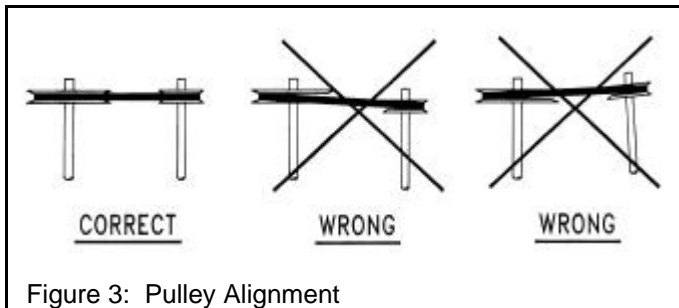

Figure 3: Pulley Alignment
- 6 With the motor adjusting bolt in its minimum position install the V belt within the sheave grooves. Slide the motor within the motor bracket to ensure proper pulley alignment (see Figure 3). A straight edge across the face of the driven pulley should be parallel to the belt once proper alignment has been achieved. Tighten the nuts on the motor base to anchor the motor position within the bracket.